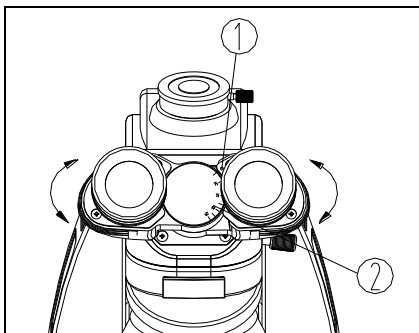

Fig. 14
“。”① on the eyepiece base points to the scale② of interpupillary indication, which means the value of interpupillary distance (see Fig. 14).